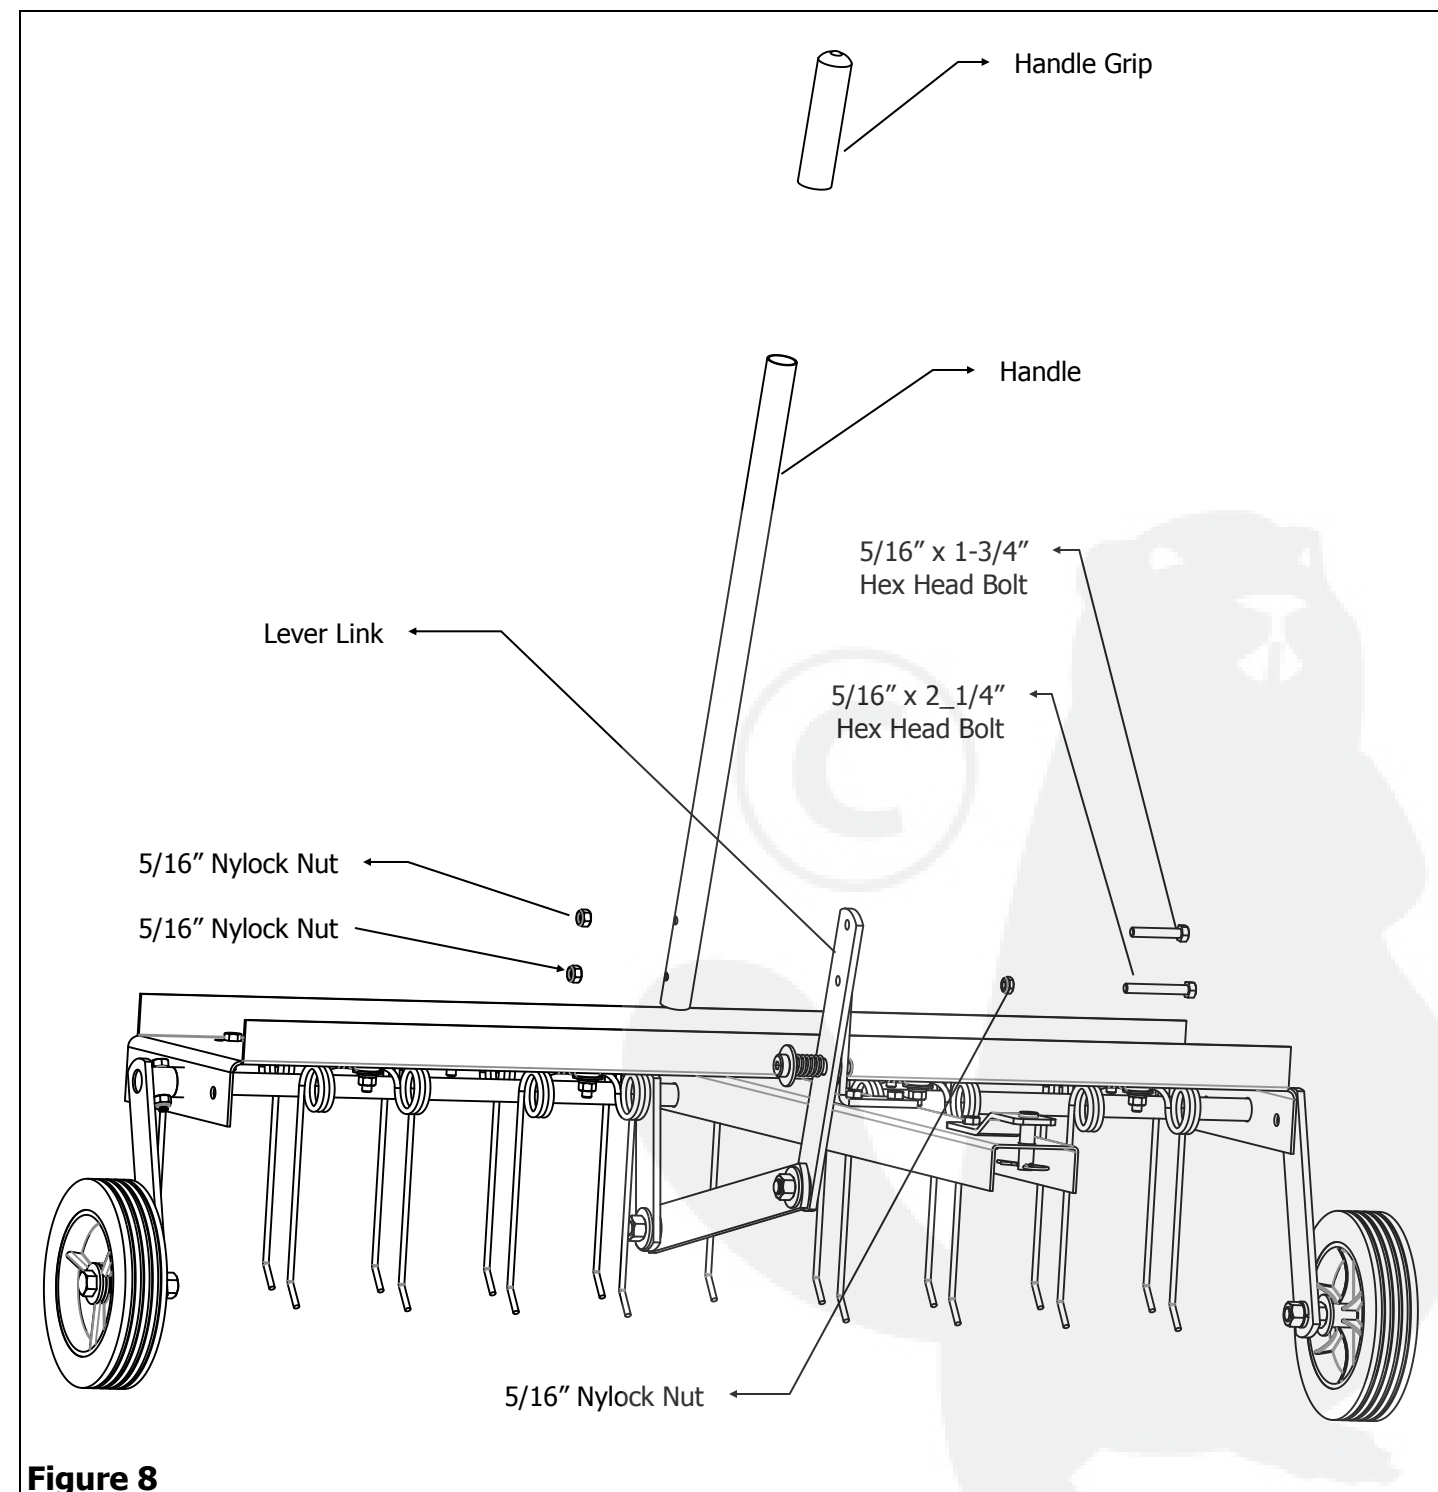

Figure 8
8. Attach the Handle Grip to the Handle. Insert the 5/16" x 1-3/4" Hex Head Bolt in to the top hole in the Handle (from the right side as us are facing the unit), then through the top hole of the Lever Link and secure with a 5/16" Nylock Nut. Attach the 5/16" Nylock Nut to the 5/16" x 2-1/4" Hex Head Bolt (leaving about 1/2" spacing at the top). Insert the bolt into the second hole of the Handle (from the right as you are facing the unit), and the Lever Link, then secure with a 5/16" Nylock Nut. See Figure 8.